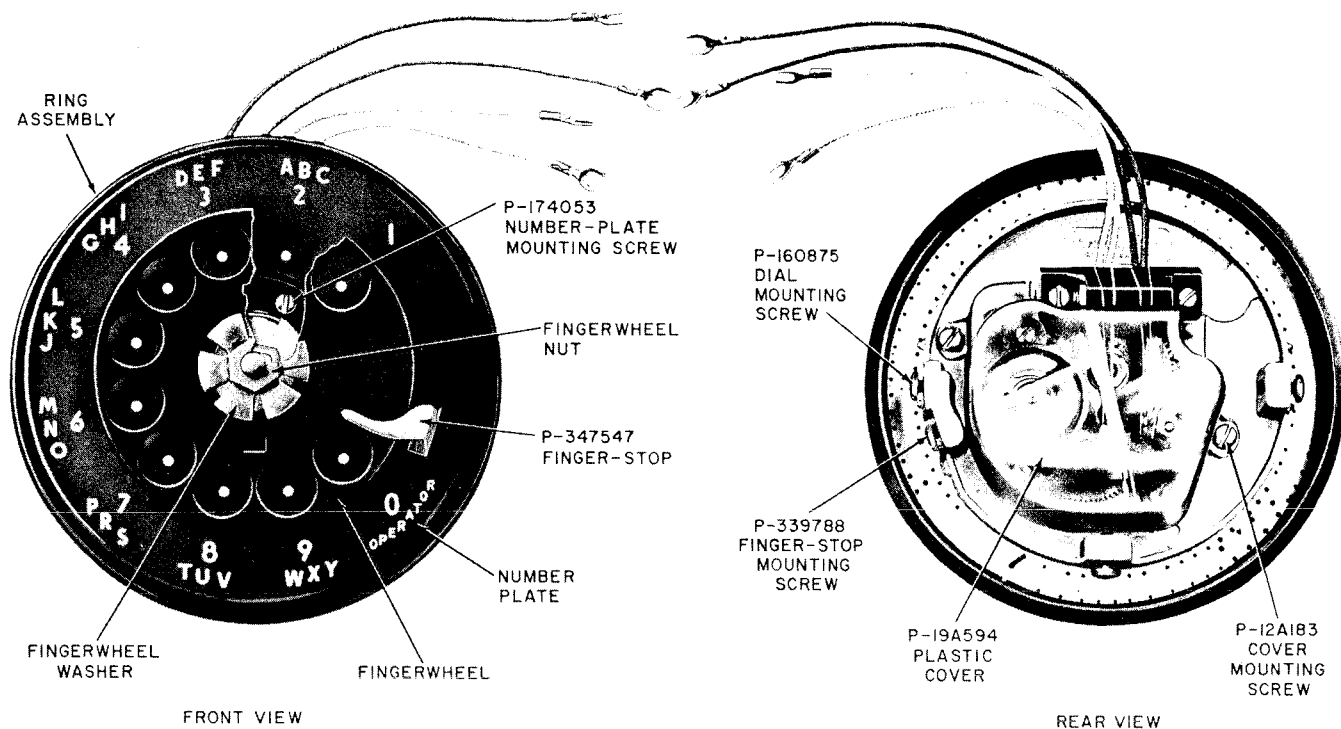

Fig. 6 — 7-Type Dial
2.04 See Tables E and F and Fig. 6 for usage and assembly of parts.